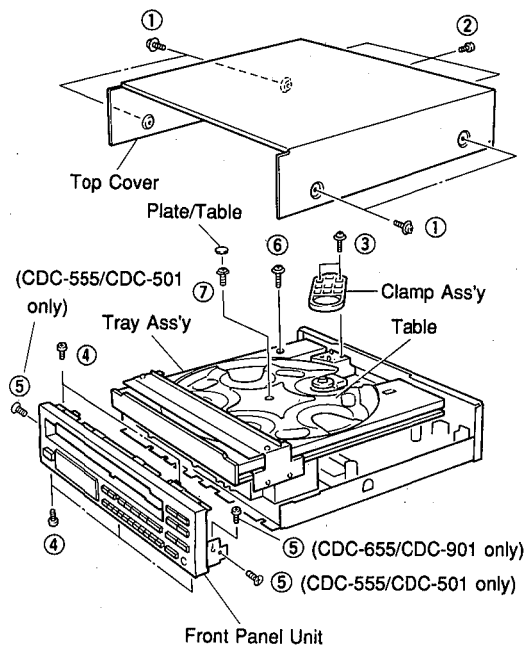

Fig. 1
- ① P. C. B. MAIN (2)
- ② CLAMP ASS'Y
- ③ CM-100 UNIT
- ④ P. C. B. MAIN (1)
- ⑤ TRAY ASS'Y
- ⑥ P. C. B. MAIN (8)...CDC-655/CDC-901 ONLY
- a. Remove 4 screws ( ① ) and also 3 screws ( ② ) as shown in Fig. 1.
- a. Remove 2 screws ( ③ ) as shown in Fig. 1.
- a. Remove 5 screws ( ④ ) and also 1 or 2 screws ( ⑤ ) as shown in Fig. 1.
- c. Take off the Front Panel Unit slowly as shown in Fig. 1.
- a. Remove 1 screw ( ⑥ ) as shown in Fig. 1.
- a. Remove the Plate/Table as shown in Fig. 1.
- b. Remove 1 screw ( ⑦ ) and then take off the Table as shown in Fig. 1.